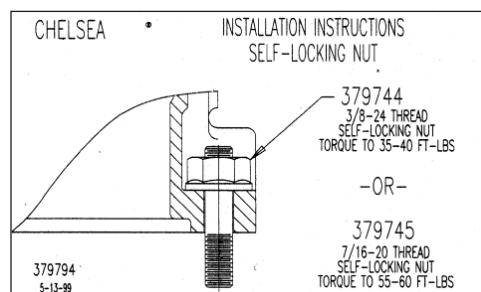

Fig. 13
15. Use Self-Locking nuts provided with P.T.O. (Fig.13).